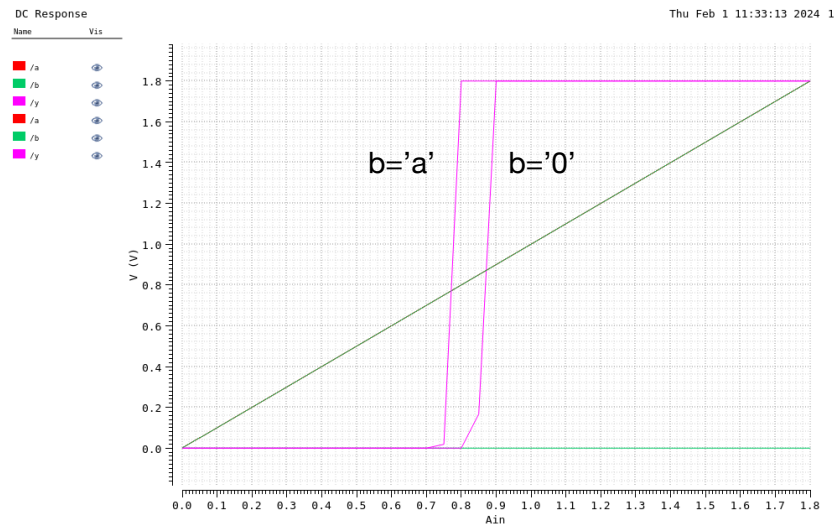

Figure 8. DC simulation results of nor2.
The switching characteristics of the or2 cell were simulated by using the DC simulation tool and the Spectre simulation software. Figure 8 shows the output 'y' (shown in pink) versus the input 'a' (shown in green) for two cases: (1) input 'b' was held fixed to 0 V and (2) input 'b' was equal to 'a' as the input was swept from 0 V to VDD in 0.05 V increments. In both cases, the output switches from 0V to VDD as expected and prior to 'a' reaching the midpoint (0.9 V). This “early switching” is a result of the mismatch in the nor2 as previously discussed. Note that since the nor2 cell is followed by the inv1 cell, the switching characteristics are sharper – this is due to the two gates in series both having to reach their switching points before passing the logic state.